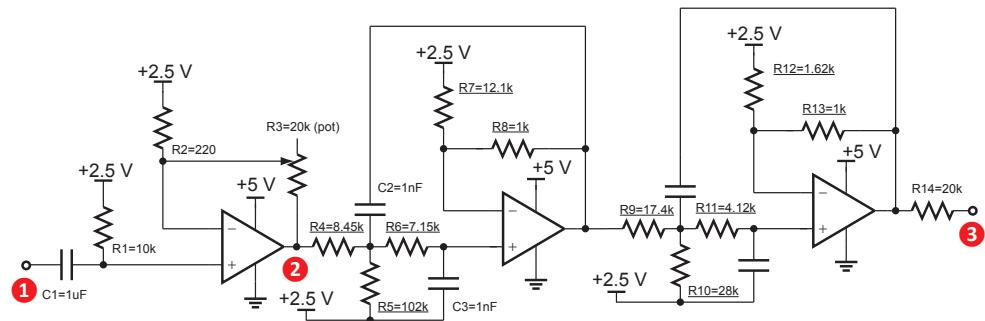

Figure 14: Schematic of the active low-pass filter. Underlined resistors values are 1% tolerance.
Fig. 14 shows the schematic of the active LPF circuit. The filter has a cut-off frequency of **15 kHz** and was designed with the TI WEBENCH filter design tool.
1. Identify the gain stage (between point 1 and point 2 Fig. 14). What is the expression of its gain? Notice that the +2.5 V supply does not affect this result, rather it simply sets the bias of the overall amplifier
1. Identify the active LPF portion of the circuit (between point 2 and point 3 in Fig. 14). The overall filter consists of 2 low pass filters. What is the order of the overall filter and how is it determined from the schematic?
3. To measure the filter response only, input a 3 Vpp signal through a series 1 nF capacitor at point 2 in Fig. 14 and measure the output through R14 (at point 3 in Fig. 14). Tabulate and plot the frequency response from 100 Hz to 150 kHz. What is the cutoff frequency of the filter?